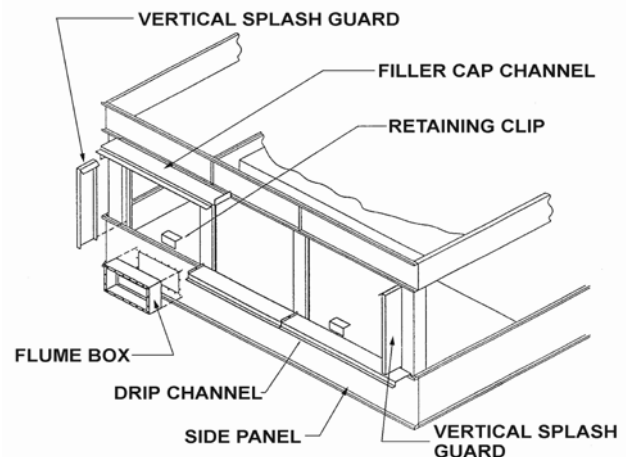

Figure 10 - Drip Channel and Splash Guards, 17' & 24' Wide Models
11. Place the vertical splash guard in the bend of the vertical supports. Attach the vertical splash guard using 5/16" tappers. For stainless steel construction, attach the vertical splash guard using 5/16" stainless steel nuts and bolts. (See Figure 10.)